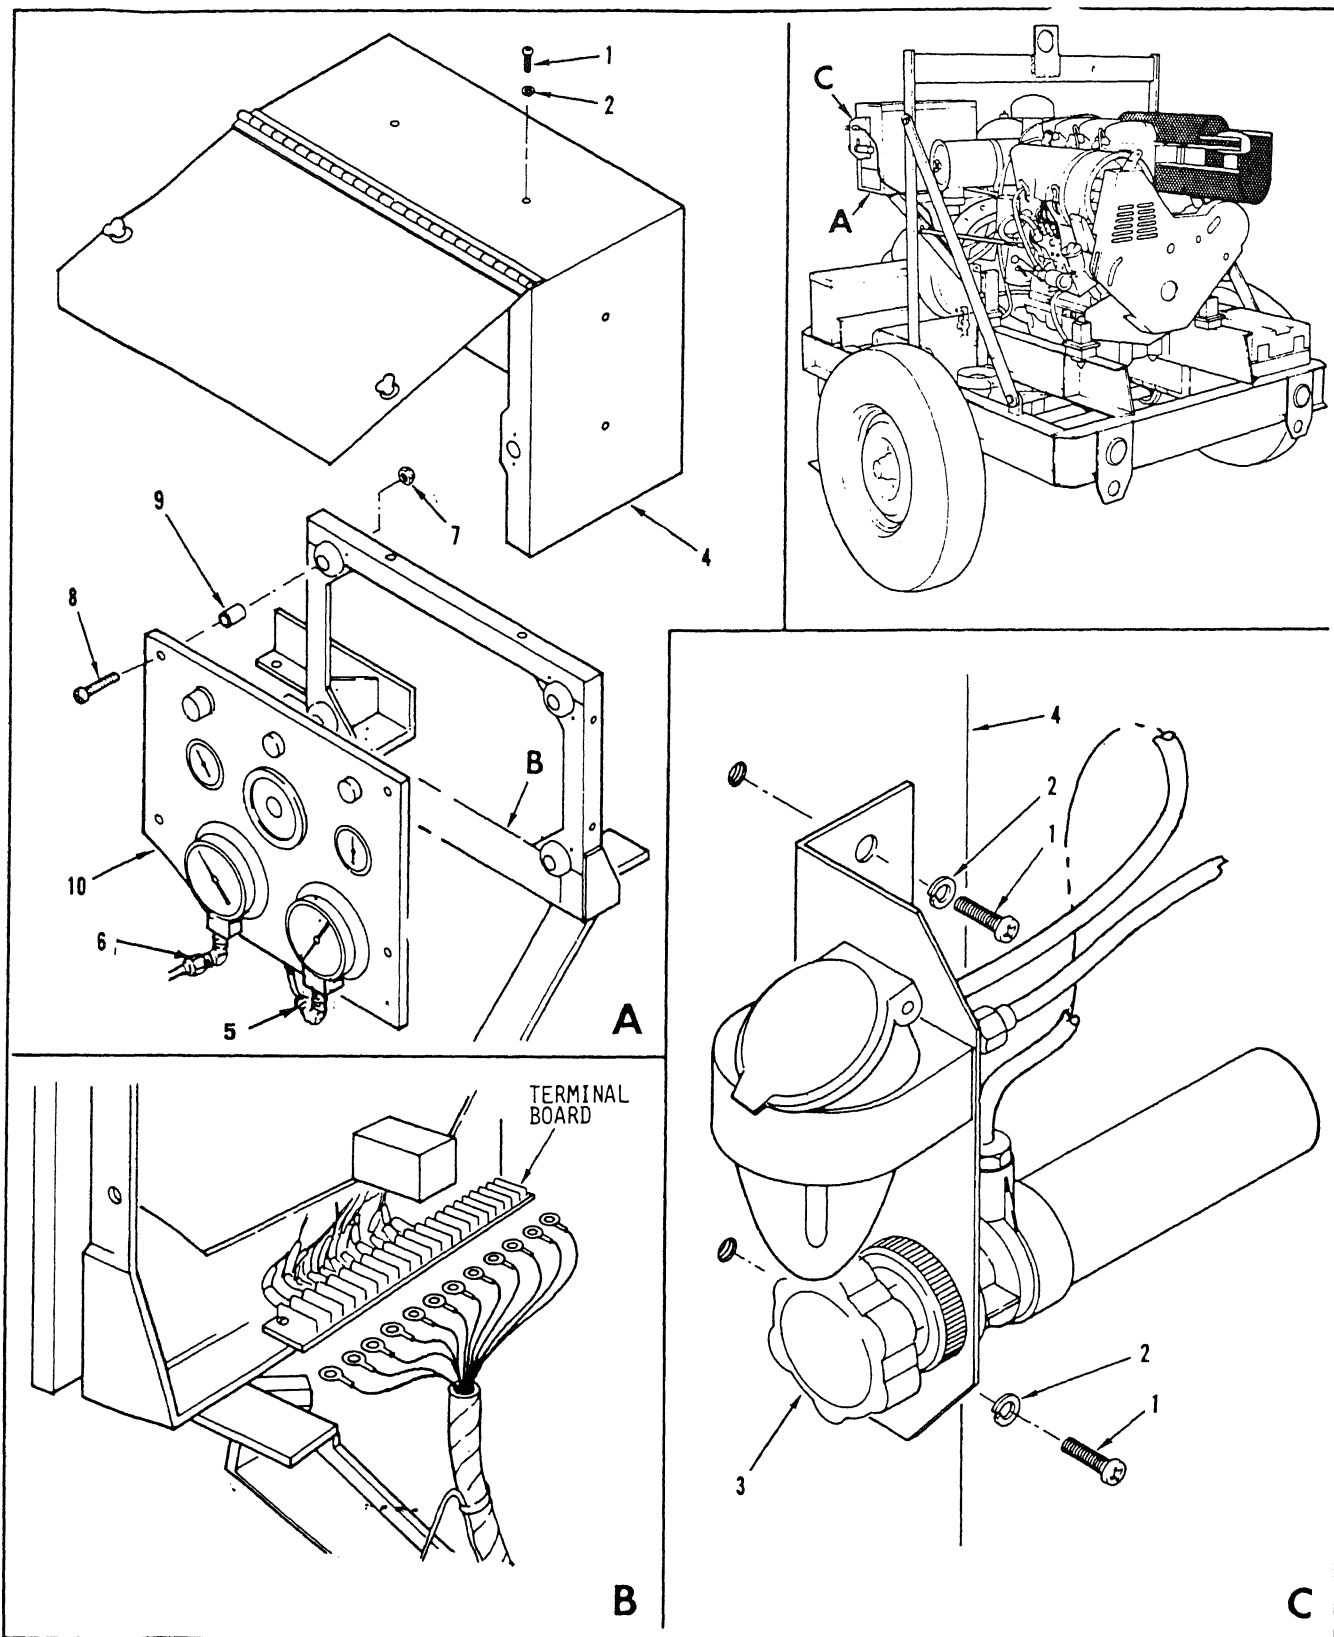
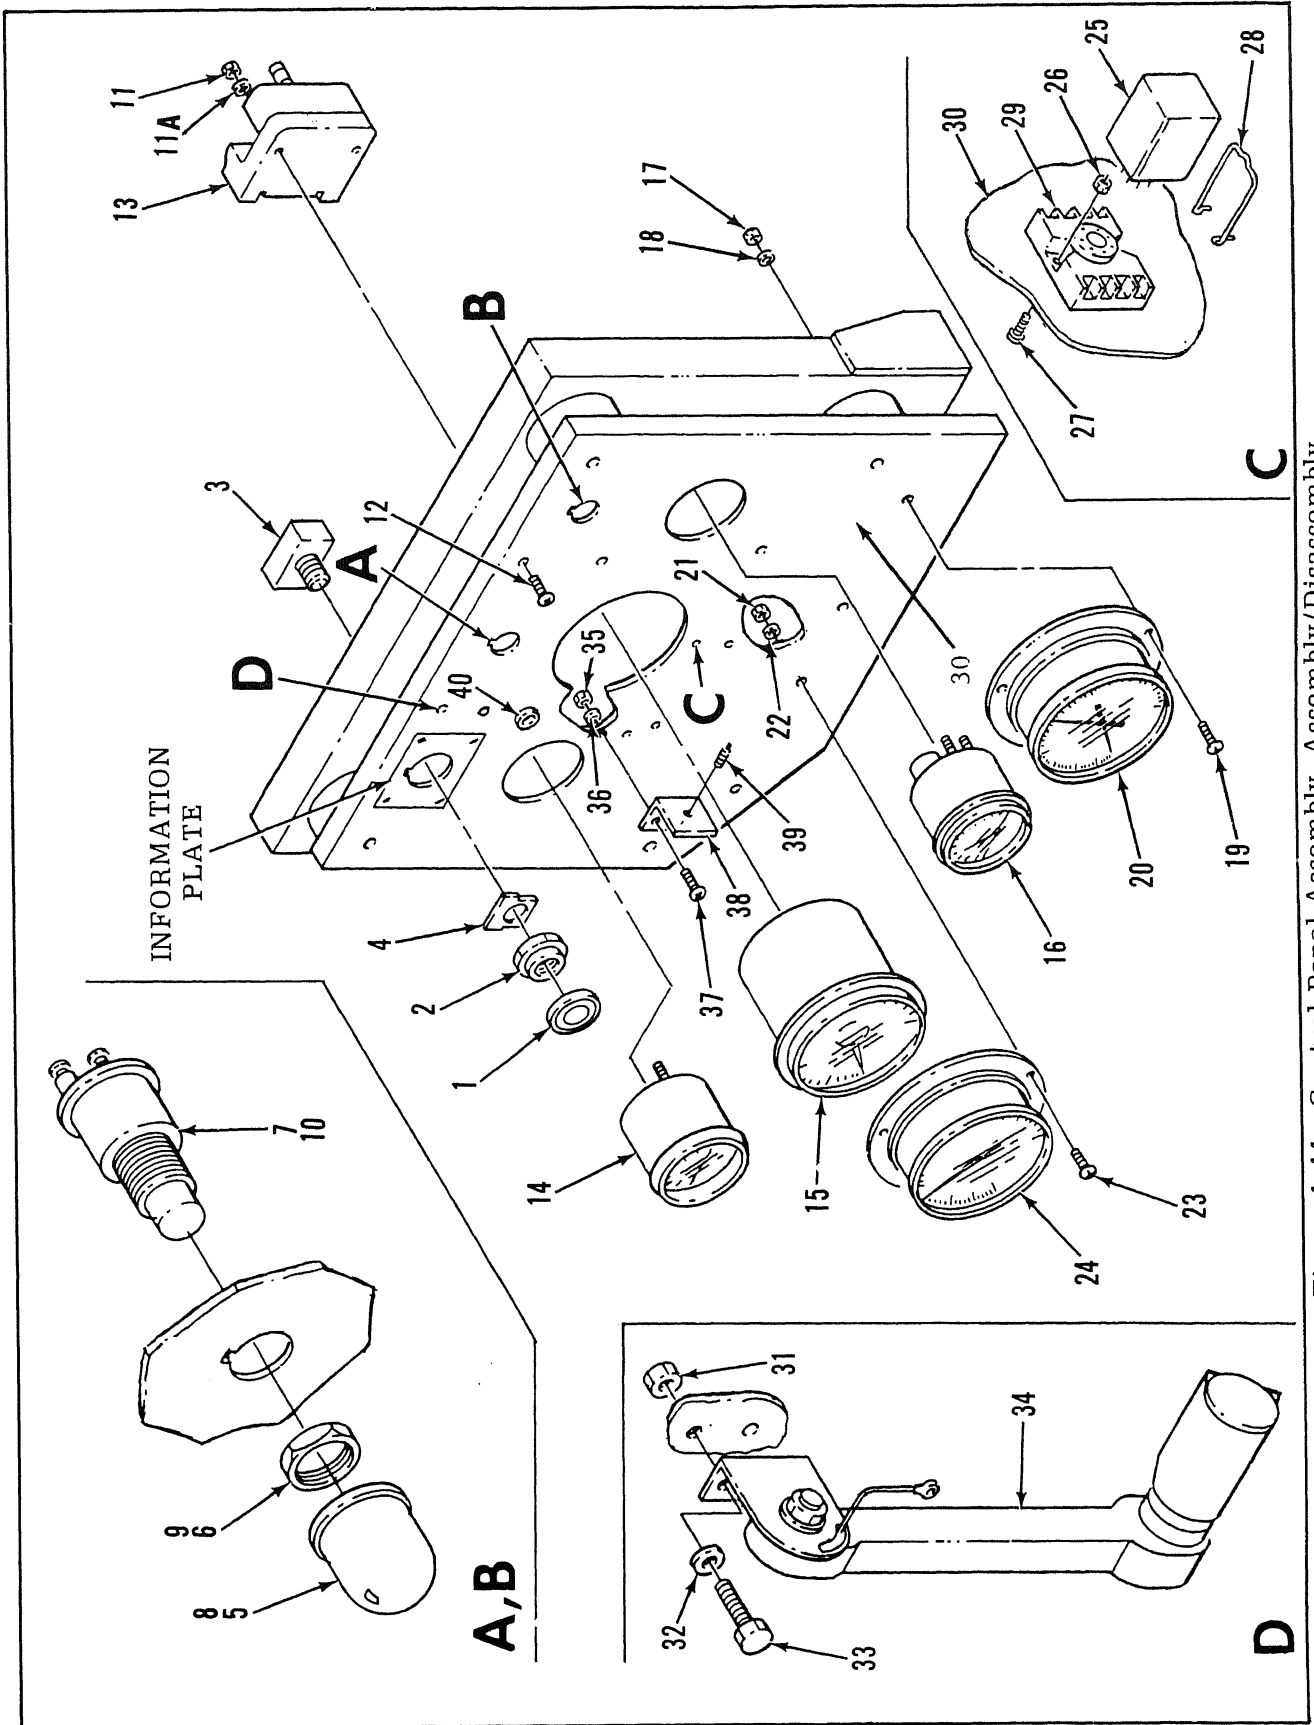
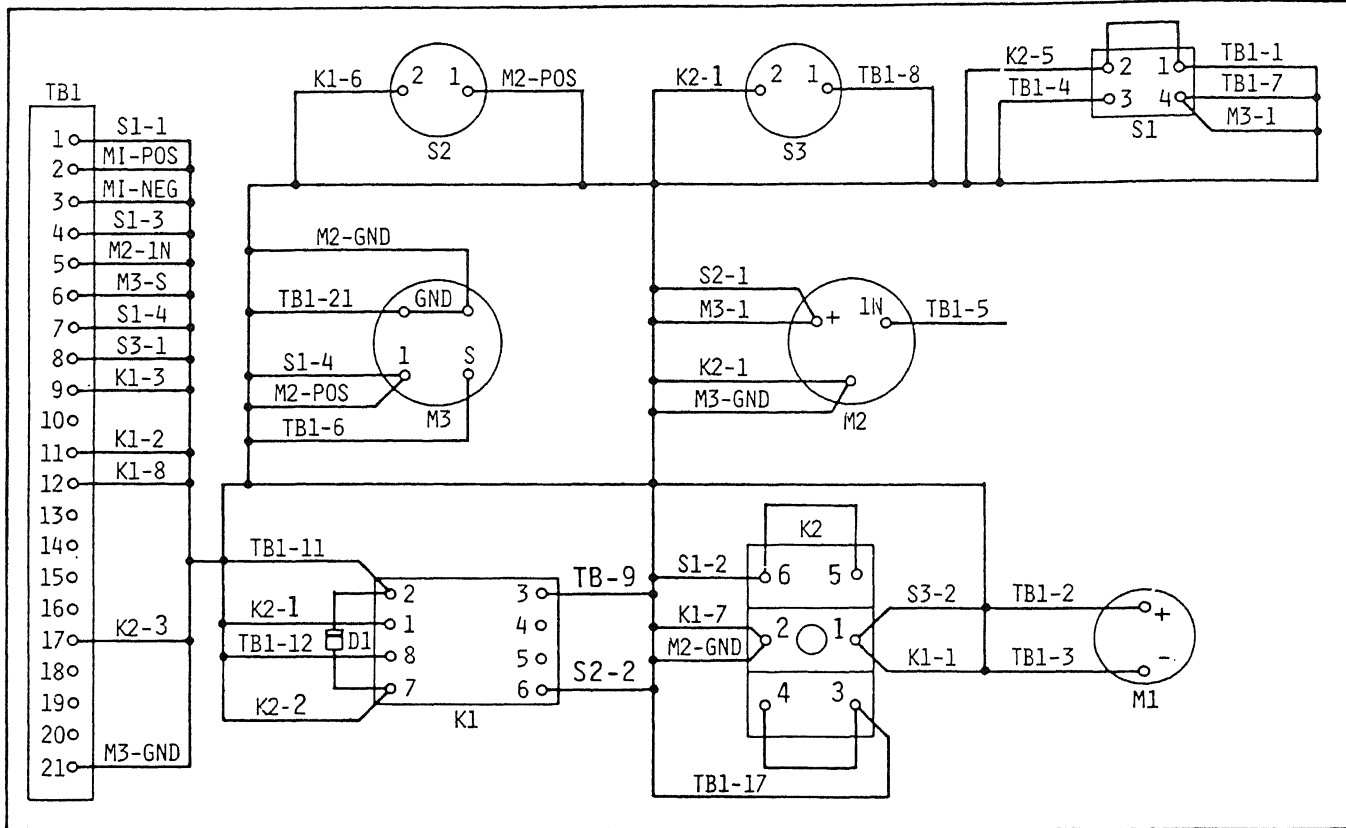
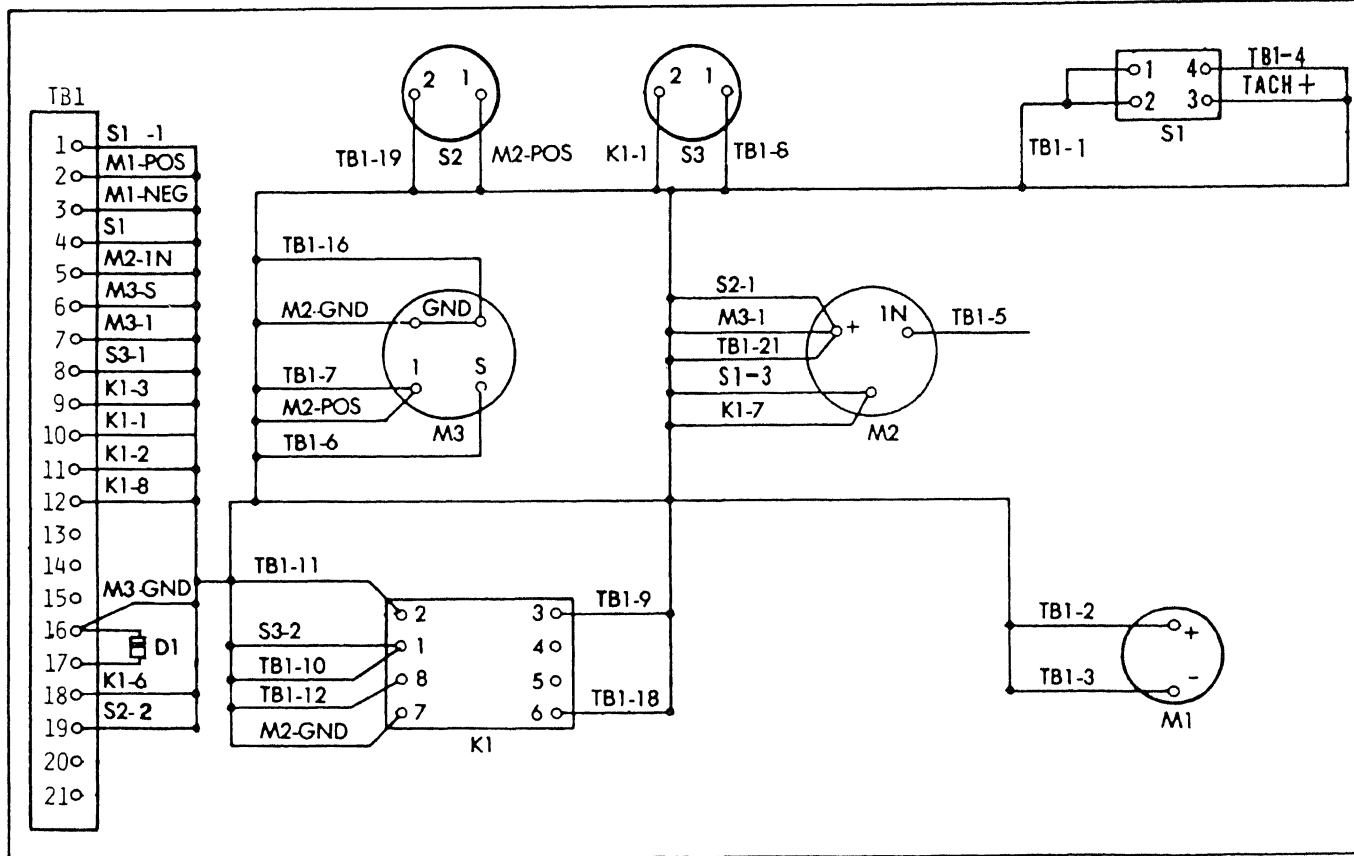

Figure 4-43. Control Panel Assembly, Removal/Installation
Figure 4-44. Control Panel Assembly, Assembly/Disassembly
Figure 4-45. Control Panel Assembly Wiring Diagram (Models 13220E1070 and 13225E920)
Figure 4-46. Control Panel Assembly Wiring Diagram (Model 13226E2289)
a. Removal (figure 4-43).
- (1) Remove screws (1), washers (2) and cold weather start kit (3). Temporarily place cold weather start kit in a place where it will not be damaged.
- (2) Carefully remove control panel cover (4).
- (3) Disconnect hoses (5) and (6).
- (4) Tag and disconnect all wires from terminal board.
- (5) Remove nuts (7), screws (8), spacers (9), and control panel assembly (10).
b. Disassembly (figure 4-44).
- (1) Tag and disconnect wires attached to EMERGENCY STOP switch (3).
- (2) Rotate red knob (1) counterclockwise and remove.
- (3) Holding back of EMERGENCY STOP switch (3) firm, remove nut (2), switch, and ring (4).
- (13) Remove oil pressure gauge (14).
- (14) Tag and disconnect wires from tachometer/hourmeter (15) and remove retaining bracket.
- (15) Remove tachometer/hourmeter (15).
- (16) Tag and disconnect wires from ammeter (16) and remove retaining bracket.
- (17) Remove ammeter (16).
- (18) Remove nuts (17), washers (18), screws (19) and suction gauge (20).
- (19) Remove nuts (17), washers (22), screws (23) and discharge gauge (24).
- (20) Slide lockwire (28) from relay (25) and pull relay out of K1 relay socket (29).
- (21) Tag and disconnect wires from K1 relay socket (29).
- (22) Remove nuts (26), screws (27), lock wire (28) and K1 relay socket (29) from control panel (30).
- (23) On Model LC 350GPM (36024), (figure 4-44), tag and disconnect wire attached to panel light.
- (24) Remove nuts (31), washers (32), screws (33), and panel light (34).
- (25) Remove nuts (35), washers (36), screws (37), and bracket (38).
- (26) Remove spring plunger (39) from bracket (38).
- (27) Inspect grommet (40) for signs of wear or cracks and remove and replace.
c. Repair. Repair of the control panel assembly consists of removing and replacing electrical components and gauges. When repairing solder joints, wire connections must be made mechanically sound before they are soldered; solder alone does not provide sufficient strength to prevent breakage. Surfaces of connections to be soldered must be clean and bright. Solder should be a lead-tin solder conforming to Specification QQ-S-571. Wires should always be heated to the point at which the solder will melt completely and flow into all parts of the joint. Excessive buildup of solder globs on the joint should be avoided or removed. Figure 4-45 contains a wiring diagram of the control panel assembly for Models 13220E1070 and 13225E9200 (97403). Figure 4-46 contains a wiring diagram of the control panel for Model 13226E2289 (97403).
d. Assembly (figure 4-44).
- (1) On Model LC 350GPM (36024) (figure 4-44), screw spring plunger (39) into bracket (38) and install bracket on control panel (30) with screws (37), washers (36), and nuts (35).
- (2) Position panel light (34) on control panel (30) and secure with screws (33), washers (32), and nuts (31).
- (3) Position K1 relay socket (29) to control panel (30) and connect wires. Install lock wire (28), screws (27) and nuts (26).